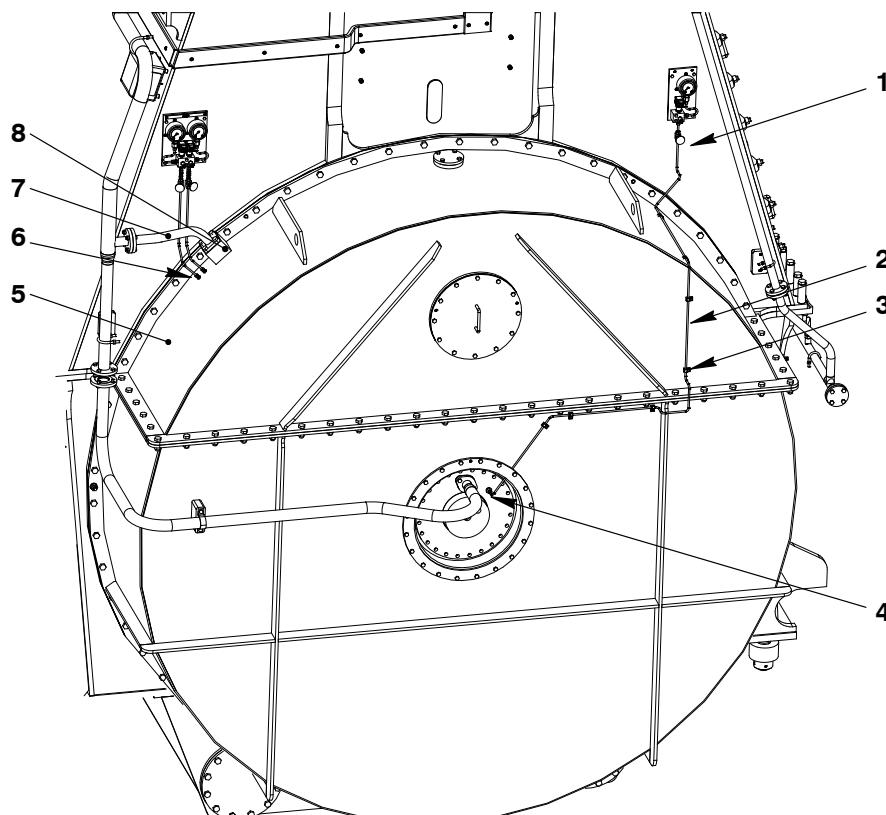

Fig. 1
- 3) Remove the copper pipe (2, Fig. 1) from the needle valve (1), the damper housing (4) and the hose clips (3).
- 4) Remove the oil inlet pipe (7) from the flange (8).
- 5) Remove the two pipes from the screw-in unions (6).
- 6) Use applicable lifting equipment to remove the top housing (5).